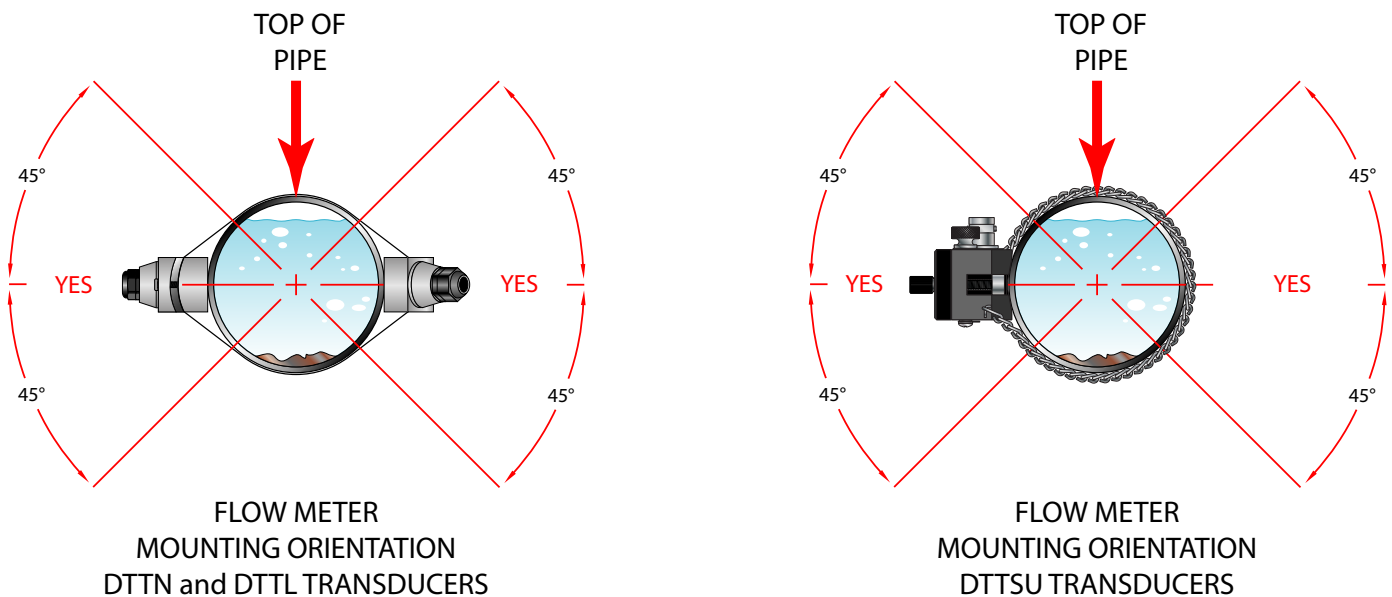

FIGURE 5.2 - TRANSDUCER ORIENTATION — HORIZONTAL PIPES
The DTTN and DTTL transducers must be properly oriented and spaced on the pipe to provide optimum reliability and performance. On horizontal pipes, when **Z-Mount** is required, the transducers should be mounted 180 radial degrees from one another and at least 45 degrees from the top-dead-center and bottom-dead-center of the pipe. See **Figure 5.2**. Also see Z-Mount Transducer Installation. On vertical pipes the orientation is not critical.
DTTSU transducers should be mounted with the cable exiting within ± 45 degrees of the side of a horizontal pipe. See **Figure 5.2**. On vertical pipes the orientation does not apply.
- 3) Crease the paper at the fold line. Mark the crease. Place a mark on the pipe where one of the transducers will be located. See **Figure 5.2** for acceptable radial orientations. Wrap the template back around the pipe, placing the beginning of the paper and one corner in the location of the mark. Move to the other side of the pipe and mark the pipe at the ends of the crease. Measure from the end of the crease (directly across the pipe from the first transducer location) the dimension derived in **Step 2**, Transducer Spacing. Mark this location on the pipe.